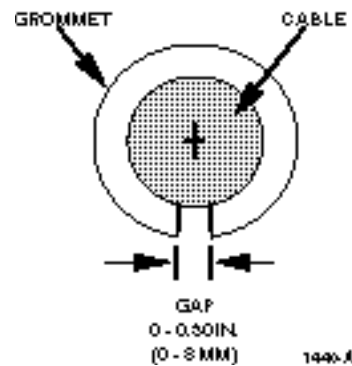

Figure 17. Grommet Selection
4. Two rubber yokes and either three or four grommets (depending on the kit) are provided with the cable clamp kit for securing the cable to the FTB. Select the grommet that, when placed on the cable, results in the gap width shown in Figure 17.